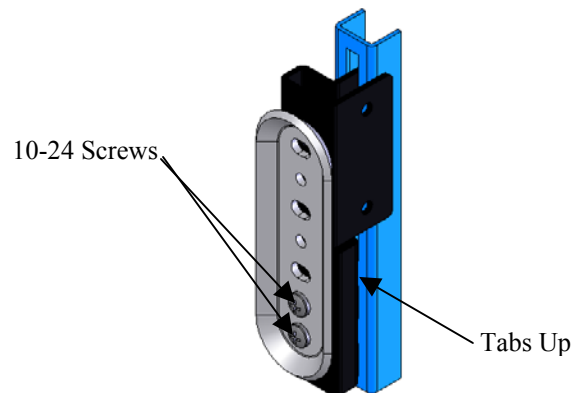

Figure 3
2. Secure the remaining adapter bracket; with the tabs facing up, to the lower two holes in the mounting bracket (supplied with your mounting assembly) by loosely installing two 10-24 pan head screws and slide the adapter bracket into mounting slots just below installed adapter bracket (see Figure 3).